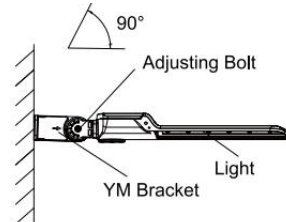

Figure 21
Step 3: Connect the fixture to the bracket and tighten the screws; connect the wires properly and put them into junction box. (Figure 21)
Notice: Adjustable angle is 0-90°(Figure 21)